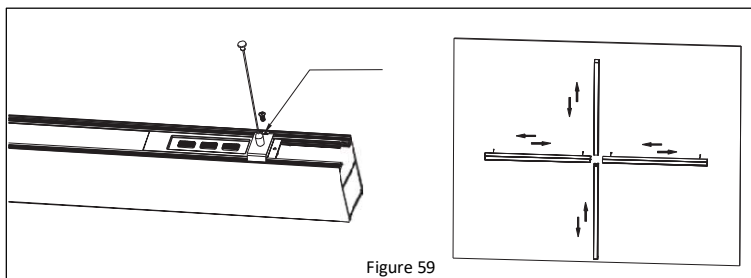

Figure 59
- Adjust the lifting bracket in the fixture to a suitable position for suspending and linking. **See Figure 59.**